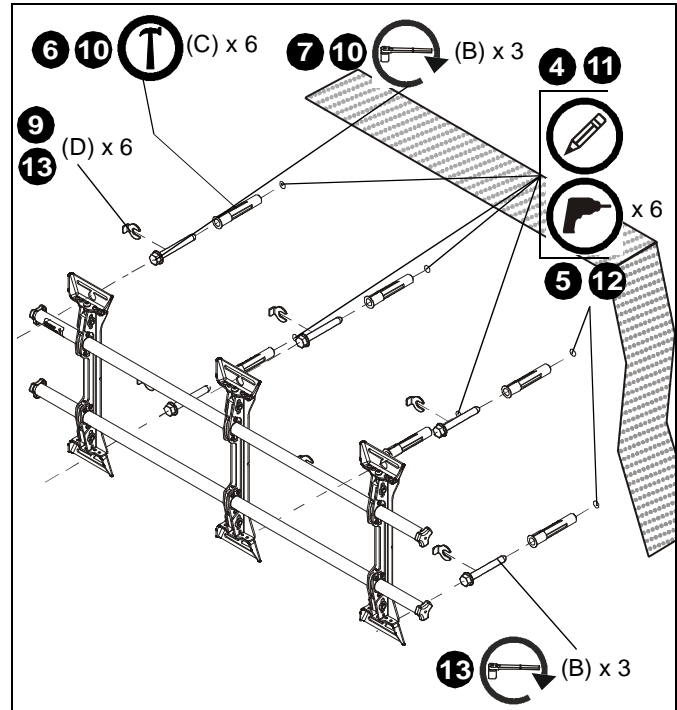

Figure 6
- Line up the notches on mount with center of screen marking to determine vertical center. (See Figure 6)
- Measure up 8" (203.2mm) from the center point to mark location of the upper mounting slots. (See Figure 6)
- Using a level, mark the wall through both upper mounting slots. (See Figure 6)
- Drill one 3/8" x 3-1/2" (9.5mm x 88.9mm) pilot hole at each marking. (See Figure 6)
- Install an anchor (C) into each pilot hole using a hammer, making sure that the anchor is flush with the wall. (See Figure 6)
- Partially install three 5/16 x 2-1/2" flanged lag bolts (B) into pilot holes but do not tighten to wall. (See Figure 6)
- Place one slotted washer (D) over each flanged lag bolt. (See Figure 6)
- Mark the attachment points for the lower mounting slots, making sure the attachment points are located on the studs. (See Figure 6)
- Drill 3/8" x 3-1/2" (9.5mm x 88.9mm) pilot holes at markings for lower mounting holes. (See Figure 6)
- Use three 5/16 x 2-1/2" flanged lag bolts (B) and two 5/16" slotted washers (D) to attach the mount to the wall through the lower mounting holes. (See Figure 6)